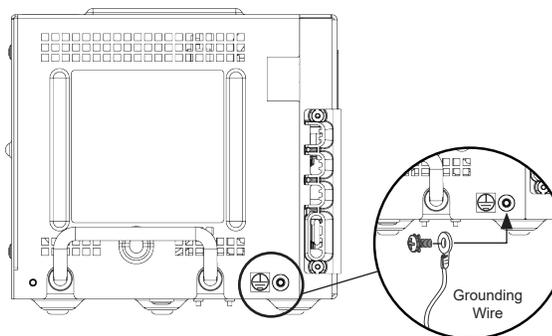

Fig. 22, Power Supply Ground
7. Using a user-supplied ground wire, connect the rack to the power supply ground by using the #10-32 ground stud Δ in Fig. 18. Connect the other end of the ground wire to the power supply using the ground screw provided (Fig. 22). Refer to applicable codes to determine additional grounding requirements.